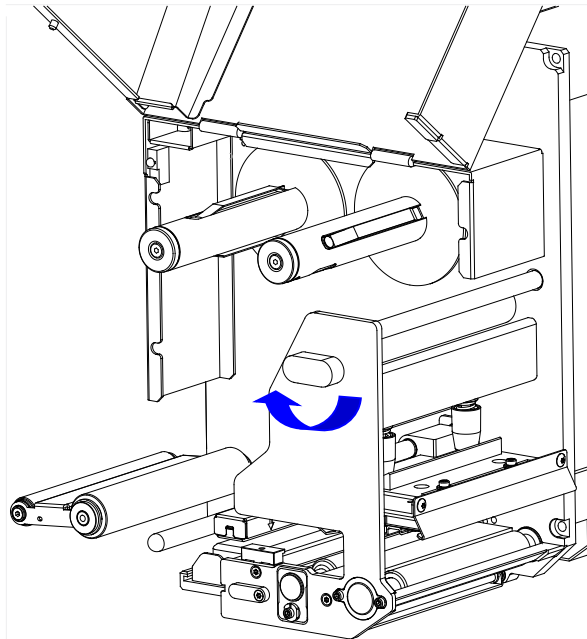
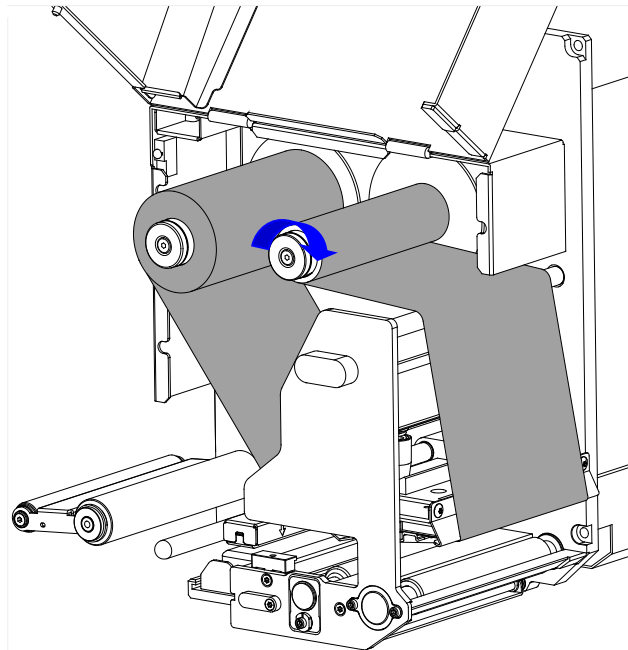

Figure 2-13 Open the Printhead
Figure 2-18 Ribbon Roll Loaded
To load the ribbon, refer to Figure 2-13 through Figure 2-18 and follow the steps below:
2. Turn the Printhead Handle counter clockwise to open the Printhead. See Figure 2-13.
7. Slide the Ribbon Take-up Roll on the Ribbon Take-up Spindle and push it firmly against the Stop Plate. Turn the Take-up Spindle until the ribbon is tightly wound. See Figure 2-18.